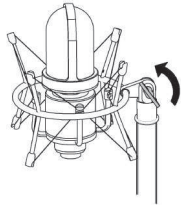

Fig. 6
3. In order to rotate the microphone, use the nut and the wing screw (Fig. 6).